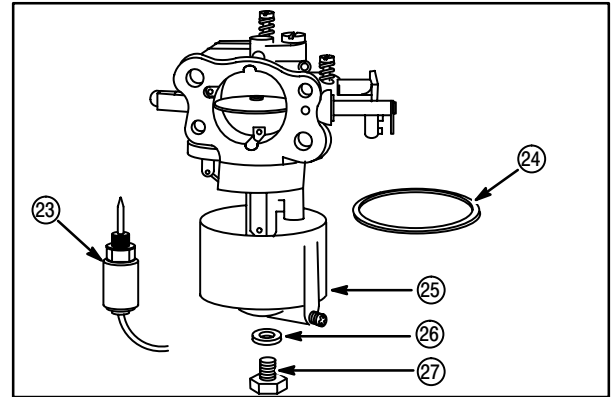

Fig. 40
20. Install bowl gasket (24), float bowl (25), washer (26) and screw (27) or anti-afterfire solenoid (23), if equipped, **Fig. 40.**